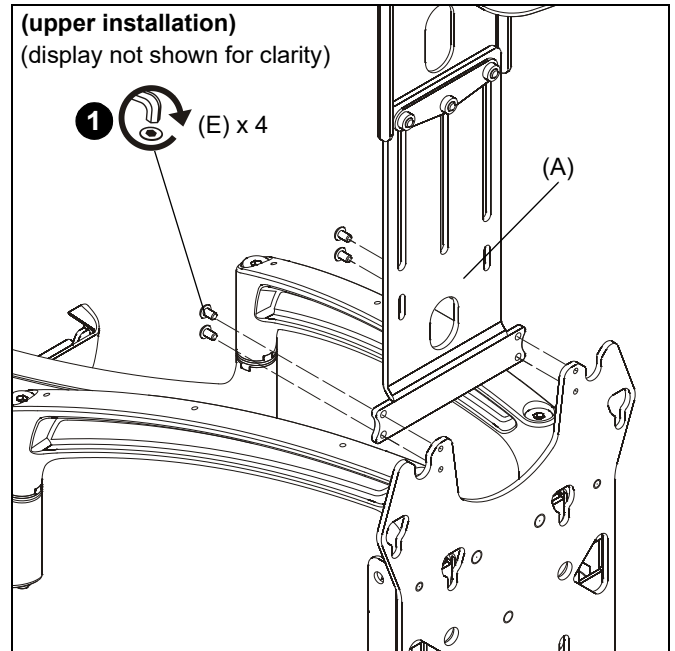

Figure 3
1. Use four #10-24 x 3/8" button head cap screws (E) to connect attachment bracket (A) to swing arm faceplate. (See Figure 3)